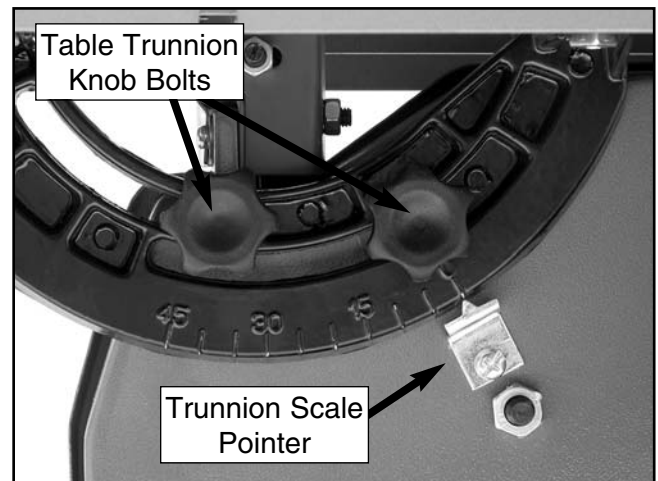

Figure 26. Trunnion assembly.
3. Loosen the two knob bolts that secure the table trunnion to the side of the bandsaw (**Figure 26**).
7. Adjust the trunnion scale pointer to the 0° mark as shown in **Figure 26**.